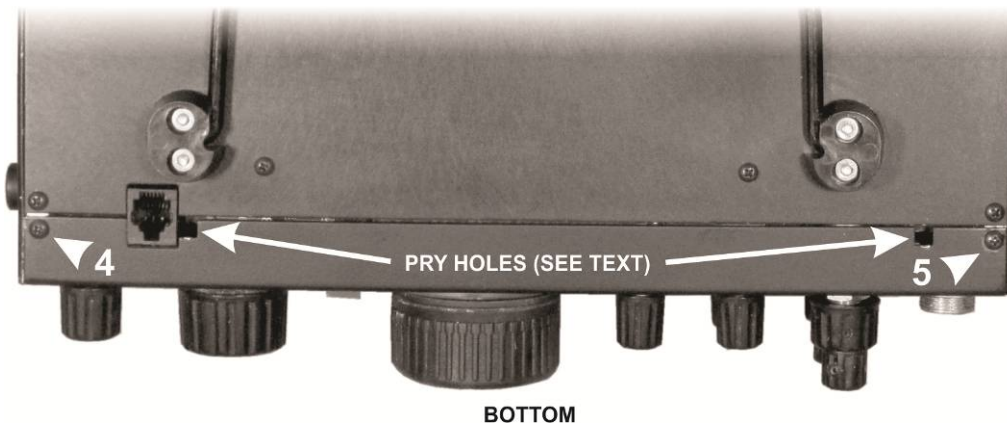

Figure 6. Removing the Bottom Front Panel Screws.
- ☐ Turn the K3/K3S over and remove the two screws on the bottom shown in Figure 6